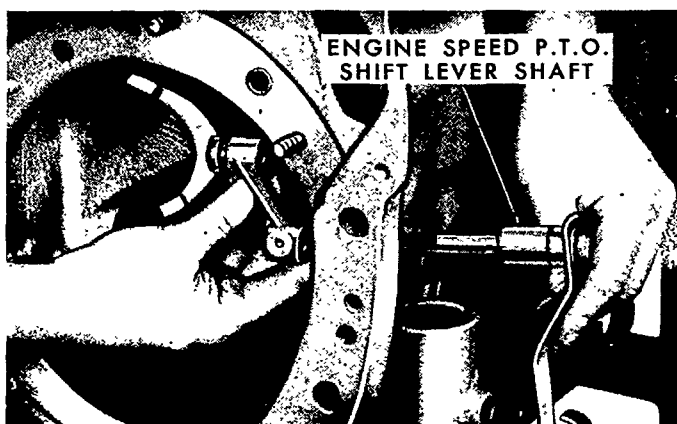

Figure 94
3. Install the P.T.O. shifter lever shaft and secure with the clevis pin and cotter pin (split pin). See Figure 94. The lever must remain off until after the transmission is assembled to the engine.